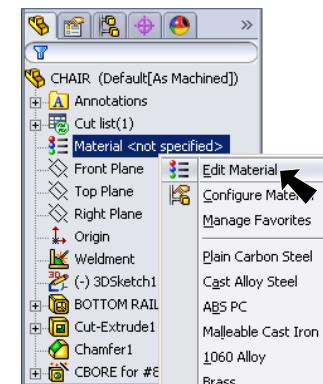

Fig. 34
Step 2. Right click Material  in the Feature Manager and click **Edit Material**, Fig. 34.